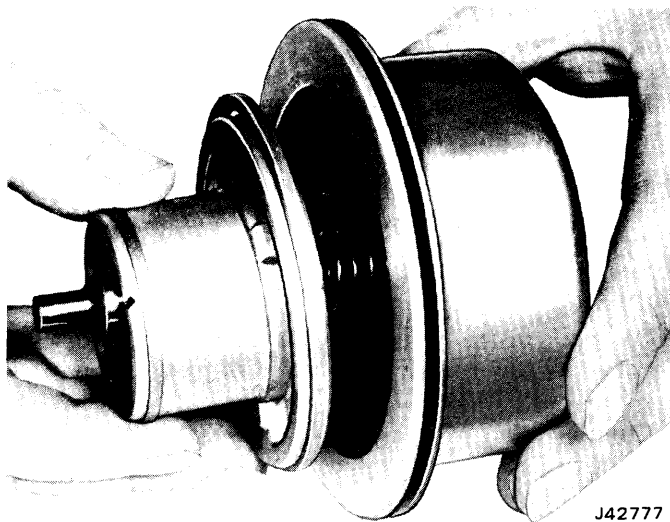

Fig. 7-52 Removing Accumulator Piston
(1) Remove rear accumulator piston from rear servo piston (fig. 7-52).
(1) Install front accumulator spring and piston (fig. 7-52).